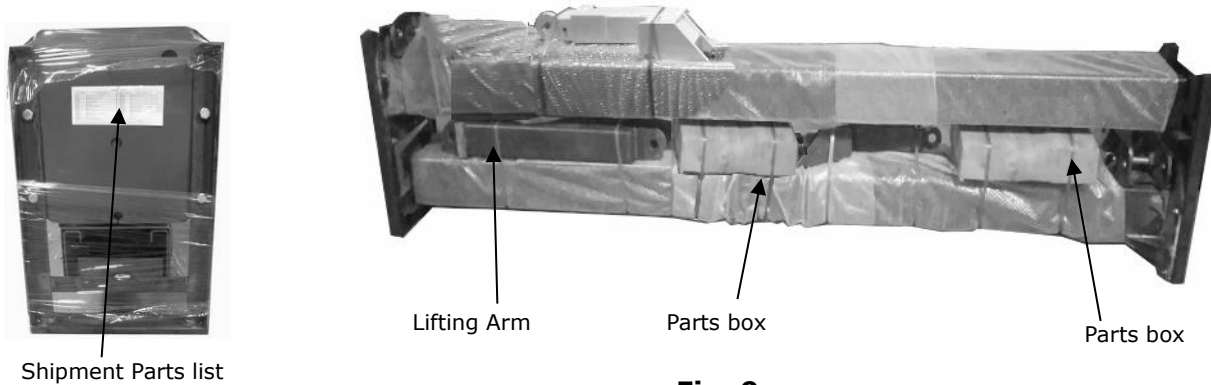

Fig. 9
2. Move aside the lift with fork lift or hoist, and open the extension packing carefully, take off the lifting arms and parts box from upper and inside the column, then move them to location nearby installation site, check the parts according to the shipment parts list (See Fig.9).